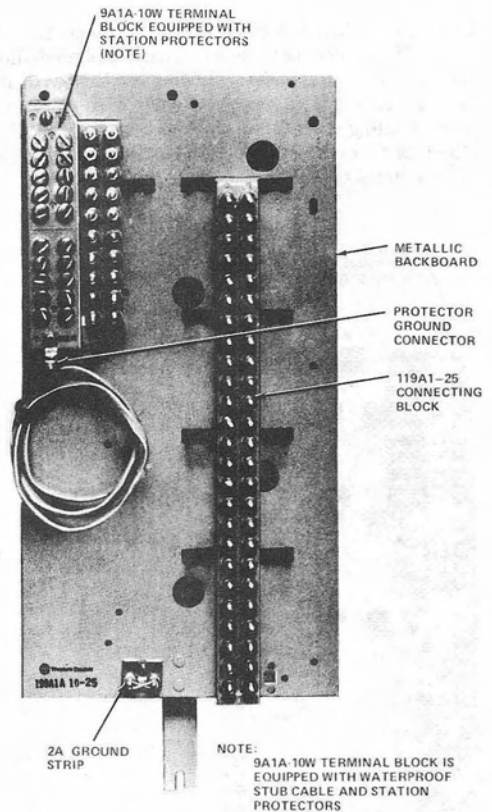

Fig. 2—199A1A10-25 Protector
2.02 The 199A1A10-25 protector is illustrated in Fig. 2. The metallic backboard has predrilled holes for mounting and a mounting lug located at its bottom center. It is equipped with wire retaining rings. Binding posts for ten station wire pairs are provided. The 119A1-25 connecting block contains binding posts for 25 wire pairs.